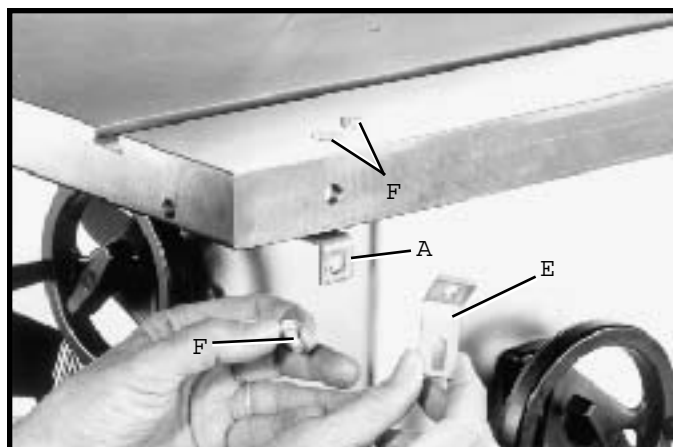

Fig. 43
4 Assemble angle bracket (E) Fig. 43, onto Z-bracket (A) using 1/4-20 x 3/4" carriage bolt (F) with flat washer and hex nut. **IMPORTANT:** The longer leg of angle bracket (E) must be secured to Z-bracket (A). Assemble the remaining two angle brackets to the edge of the table in the same manner.